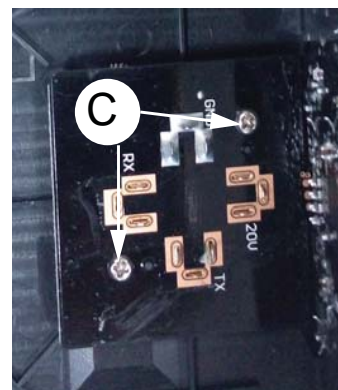

Figure 4
- 1) Loosen 2 screws "C" to remove CHANGE3 / CHANGE2 board as shown in figure 4.